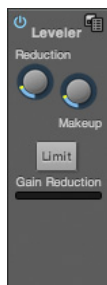

Figure 9-7: The Leveler module.
The Leveler™ (Figure 9-7) provides an accurate model of the legendary Teletronix™ LA-2A® optical compressor, known for its unique and highly sought-after Automatic Gain Control (AGC) characteristics.
*Gain Reduction* (Figure 9-7) sets the strength of the signal sent to the AGC model.
*Makeup gain* (Figure 9-7) amplifies the output signal to make up for gain reduction.
The *Limit* button (Figure 9-7) models the original LA-2A Limit/Compress mode switch. The effect is very subtle, with the Limit option behaving only slightly more like a limiter than a compressor. The switch increases the level of the input to the AGC model and runs the attenuator at a slightly lower level. The Leveler then responds more strongly to transients, but otherwise still behaves like a leveling amplifier.